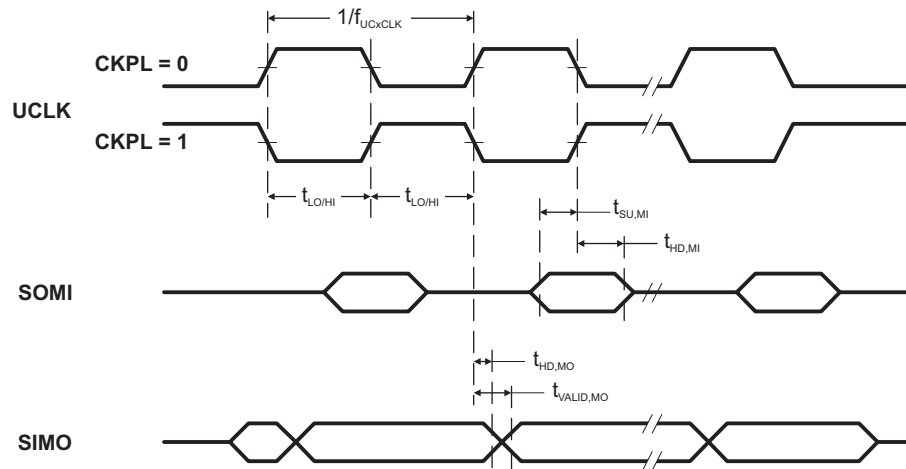
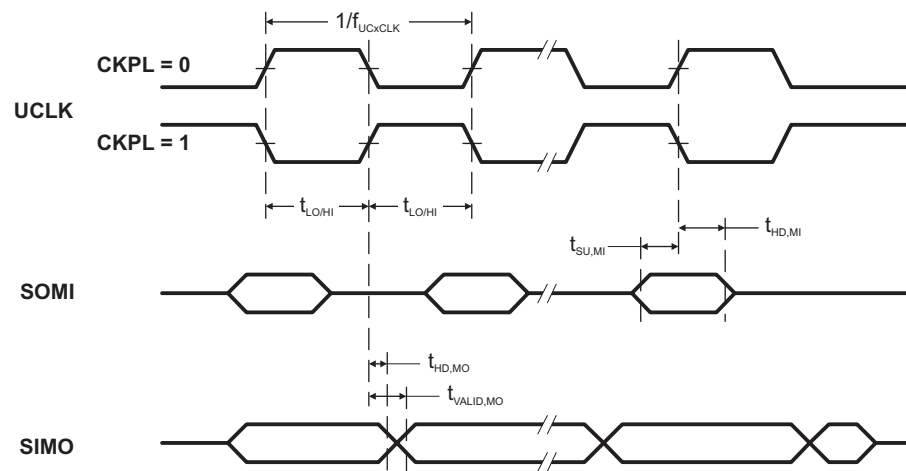

Figure 15. SPI Master Mode, CKPH = 0
Figure 16. SPI Master Mode, CKPH = 1
(see Note ⁽¹⁾, Figure 15 and Figure 16)
- (1) $f_{UCXCLK} = 1/2t_{LO/HI}$ with $t_{LO/HI} \geq \max(t_{VALID,MO}(USCI) + t_{SU,SI}(Slave), t_{SU,MI}(USCI) + t_{VALID,SO}(Slave))$. For the slave's parameters $t_{SU,SI}(Slave)$ and $t_{VALID,SO}(Slave)$ see the SPI parameters of the attached slave.
- (2) Specifies the time to drive the next valid data to the SIMO output after the output changing UCLK clock edge. See the timing diagrams in Figure 15 and Figure 16.
- (3) Specifies how long data on the SIMO output is valid after the output changing UCLK clock edge. Negative values indicate that the data on the SIMO output can become invalid before the output changing clock edge observed on UCLK. See the timing diagrams in Figure 15 and Figure 16.
(1) $f_{UCXCLK} = 1/2t_{LO/HI}$ with $t_{LO/HI} \geq \max(t_{VALID,MO(Master)} + t_{SU,SI(USCI)}, t_{SU,MI(Master)} + t_{VALID,SO(USCI)})$.For the master's parameters $t_{SU,MI(Master)}$ and $t_{VALID,MO(Master)}$ see the SPI parameters of the attached master.(2) Specifies the time to drive the next valid data to the SOMI output after the output changing UCLK clock edge. See the timing diagrams in Figure 15 and Figure 16.(3) Specifies how long data on the SOMI output is valid after the output changing UCLK clock edge. See the timing diagrams in Figure 15 and Figure 16.